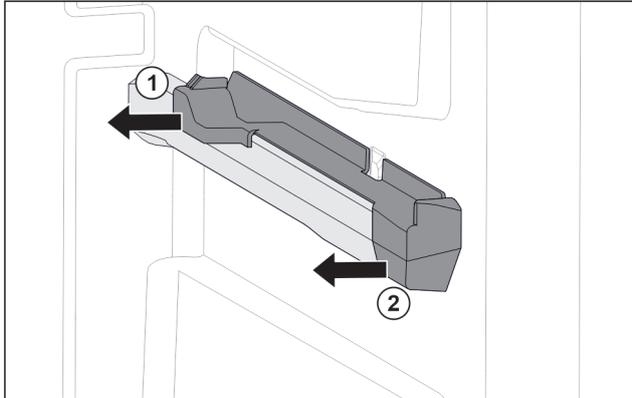

Fig. 68 Attachment on the right moulded rib
- ▶ Pull off attachment at the back sideways. Fig. 68 (1)
- ▶ Pull off attachment at the front sideways. Fig. 68 (2)